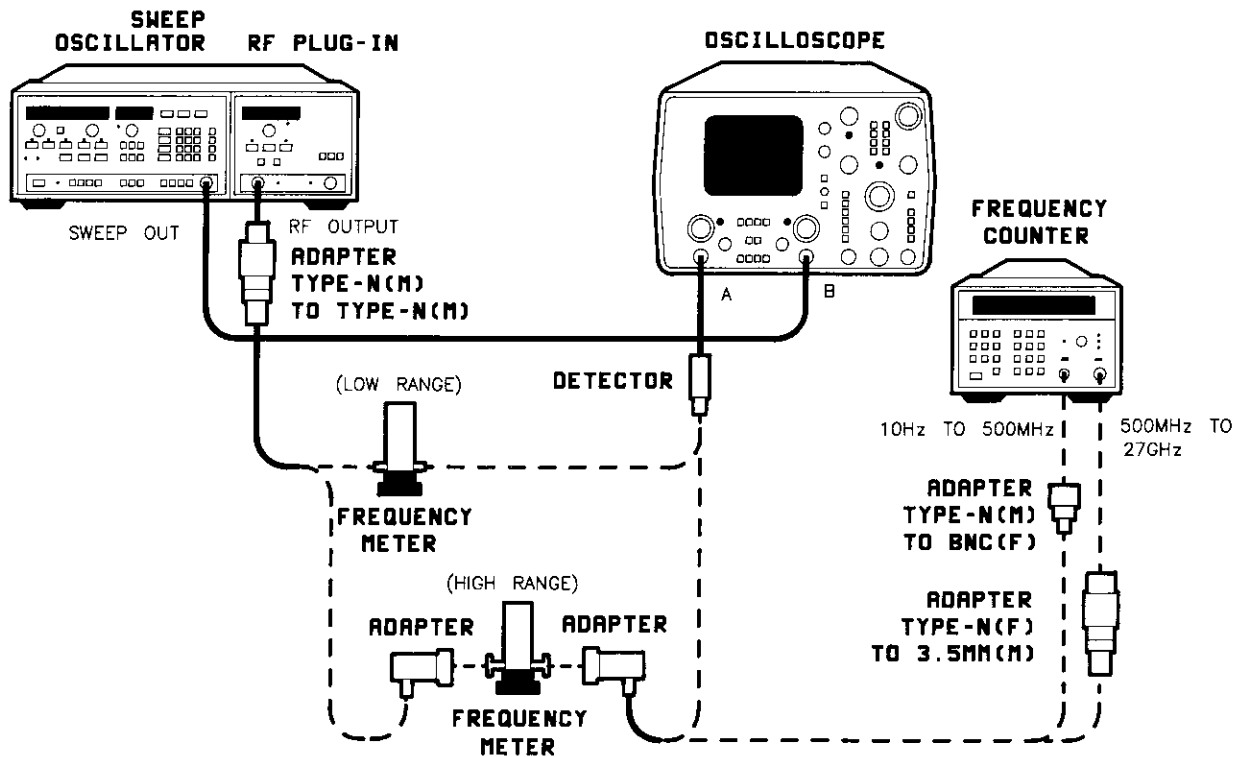

Figure 4-1A. Alternate Swept Frequency Accuracy Test Setup
- 1A. Connect equipment as shown in Figure 4-1A. Use the frequency meter necessary to cover the tested frequency range of the HP 83595A.